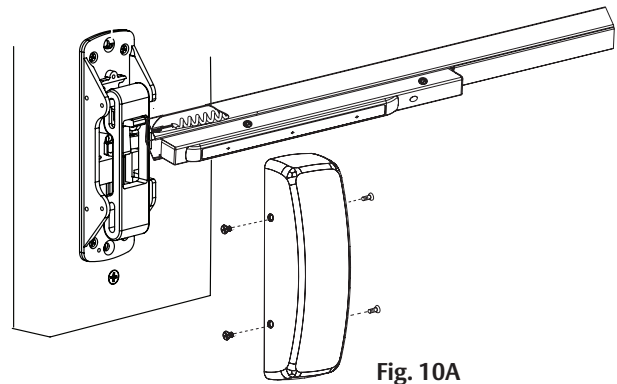

Fig. 10A
1. Secure chassis cover to chassis using (4) #8-32 x 5/16 oval head machine screws, Fig. 10A.